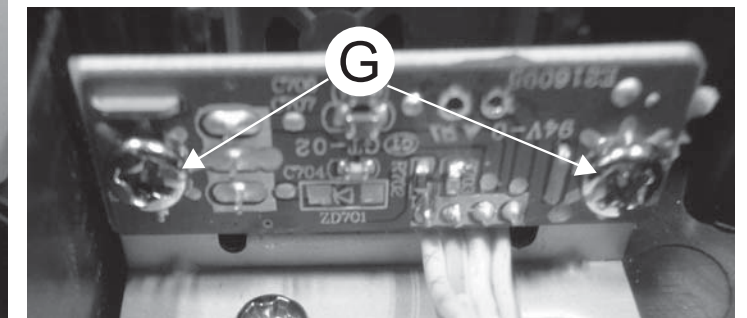

Figure 7
- 2) Loosen 2 screws "G" on the top of SENSOR Board as shown in figure 7.